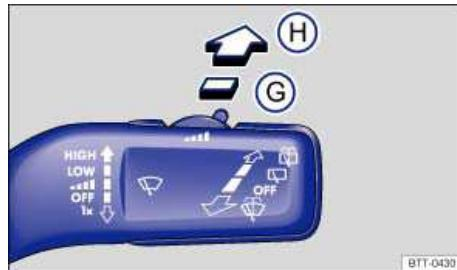

Fig. 91 Operating the rear wiper.
If the windshield wiper lever is in the rear window intermittent wiping position ⇒ fig. 91 (G) when the ignition is switched off and back on or the engine is started, rear window wiper action does not resume until the windshield wipers are activated. This is to keep the wiper from working when the